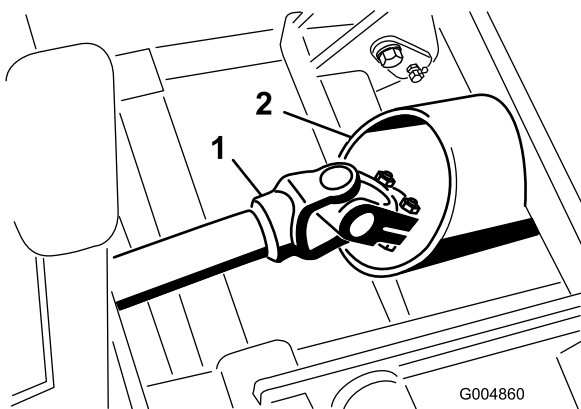

Figure 16
4. Carefully roll the winter frame assembly into position while routing the drive shaft through the frame tube (Figure 16).